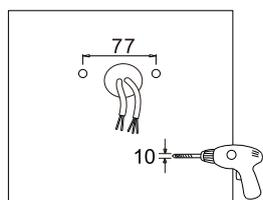

Figure 16
3. YOKE MOUNTING (YM)
Step 1: Drill holes on the wall as shown. (Figure 16)